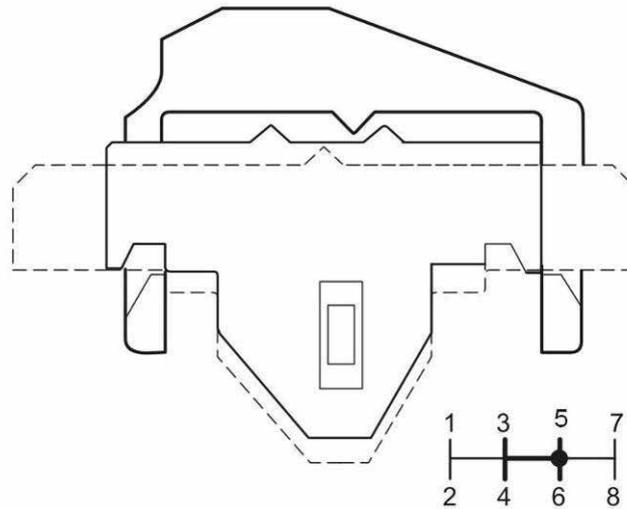

Figure 22 Fifth or Sixth Gear
- e. **Fifth or Sixth Gear.** When fifth or sixth gear is selected, the upper detent plate is moved towards the shift bush by the detent plunger, as shown in Figure 22. The neutral detent mechanism now allows the selection of neutral B or D from the neutral C position.